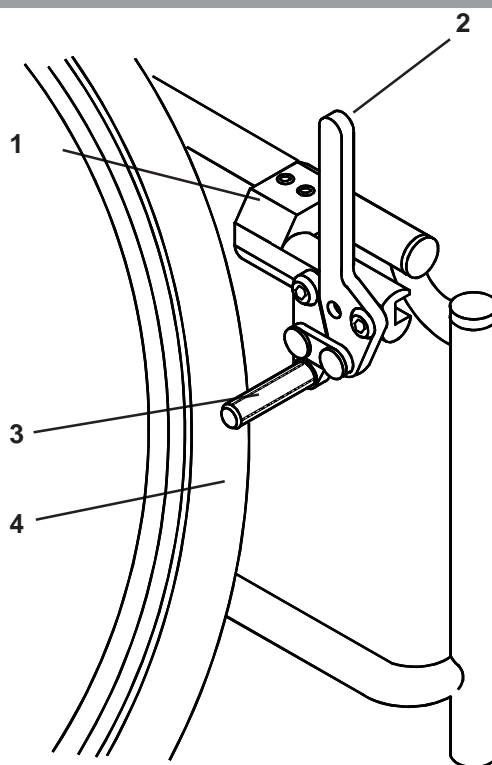

Fig. 29
High mount push-to-lock wheel locks or low mount push-to-lock wheel locks are shown in Figs. 29 and 30.
The wheel lock mounts on a clamping system (1) and is correctly set prior to leaving the factory (Fig. 29). To apply the wheel lock simply push the operating lever (2) forwards until you feel it go over centre, and the grip bar (3) grips the tyre (4).